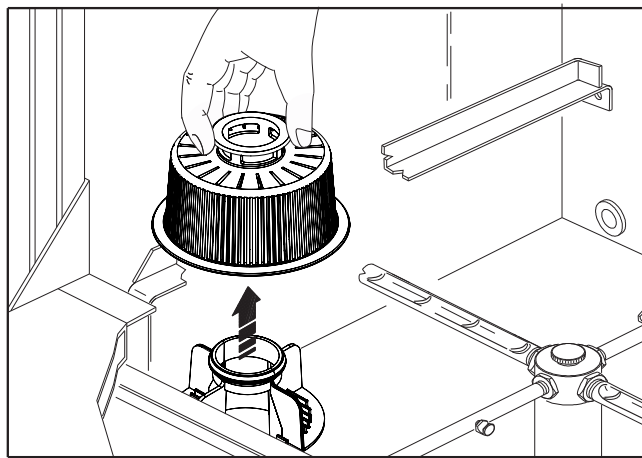

Fig. 17
5. Remove and clean the wash pump filter (fig. 17) and any tank filters if present